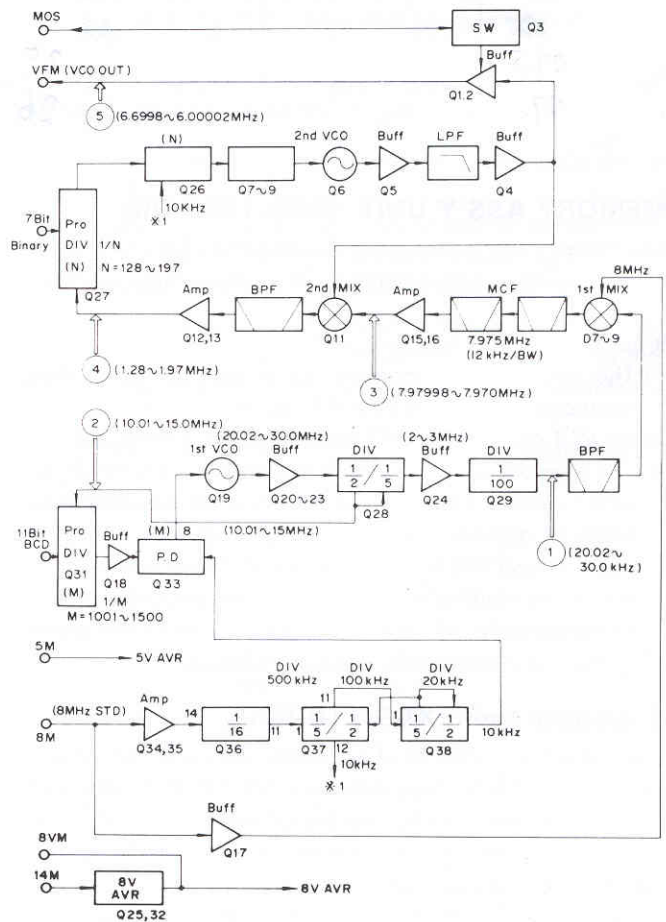

Fig. 15 VCO unit block diagram
The block diagram of the VCO unit is shown in Fig. 15, and a memory frequency chart is given in Table 3.
2. ①~⑤ mark shows each frequency of block diagram on the VCO unit Fig. 15.